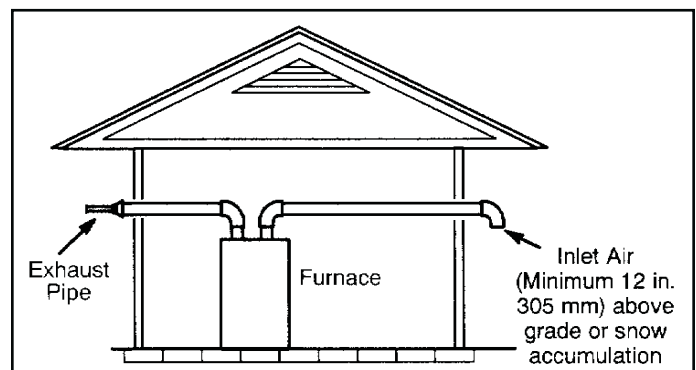

Figure 27. Exiting Exhaust and Intake Vent
1. Intake and exhaust terminations are not required to be in the same pressure zone. You may exit the intake on one side of the structure and the exhaust on another side (Figure 27). You may exit the exhaust out the roof and the intake out the side of the structure (Figure 28).
5. On field supplied terminations for sidewall exit, exhaust piping may extend a maximum of 12 inches (305 mm) for 2" PVC and 20 inches (508 mm) for 3" (76 mm) PVC beyond the outside wall. Intake piping should be as short as possible. See Figure 27.